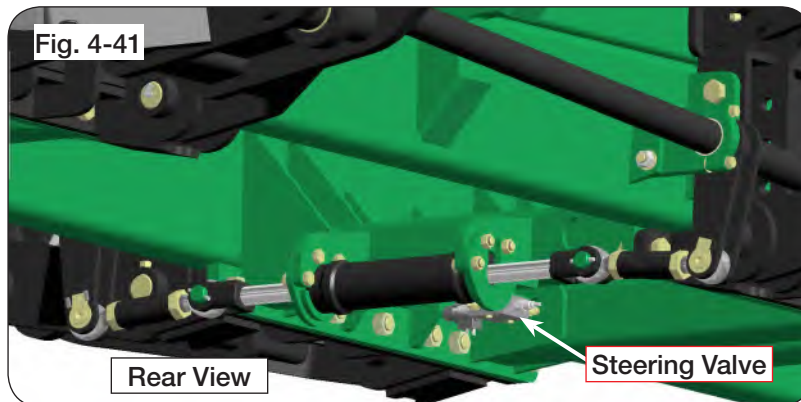

Fig. 4-41
4. Check the harness connection on the steering valve located on the cross axle, make sure there is 12-Volt to the solenoid on the valve attached to the cross axle. (Fig. 4-41)